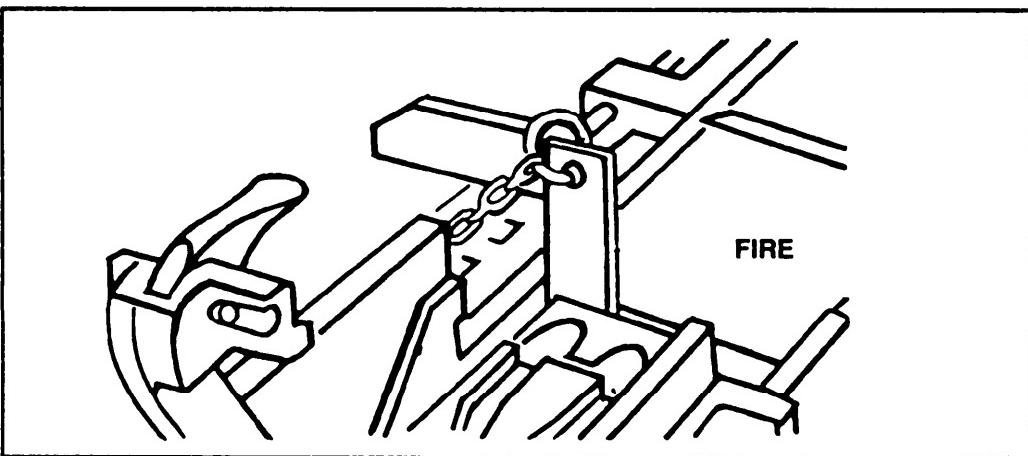

Figure 3-24. Inserting the fire gauge.
- (5) Grasp the retracting slide handle and retract the bolt just enough to remove the no-fire gauge and insert the fire gauge in the same place (Figure 3-24). Release the retracting slide handle.